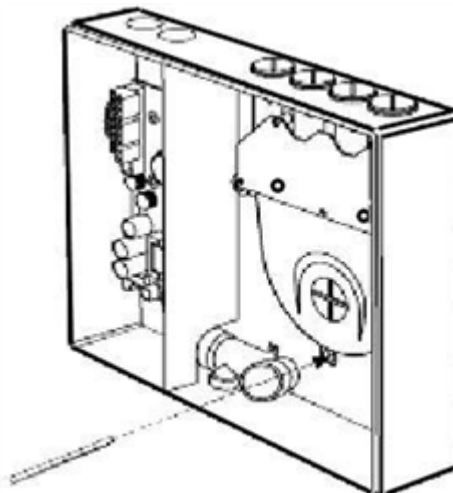

Figure 7-7: Removing Pipe Inlet Manifold during VLP and VLS chassis replacement
10. Remove the Manifold by sliding it downward, away from the pipe network as shown in Figure 7-7.